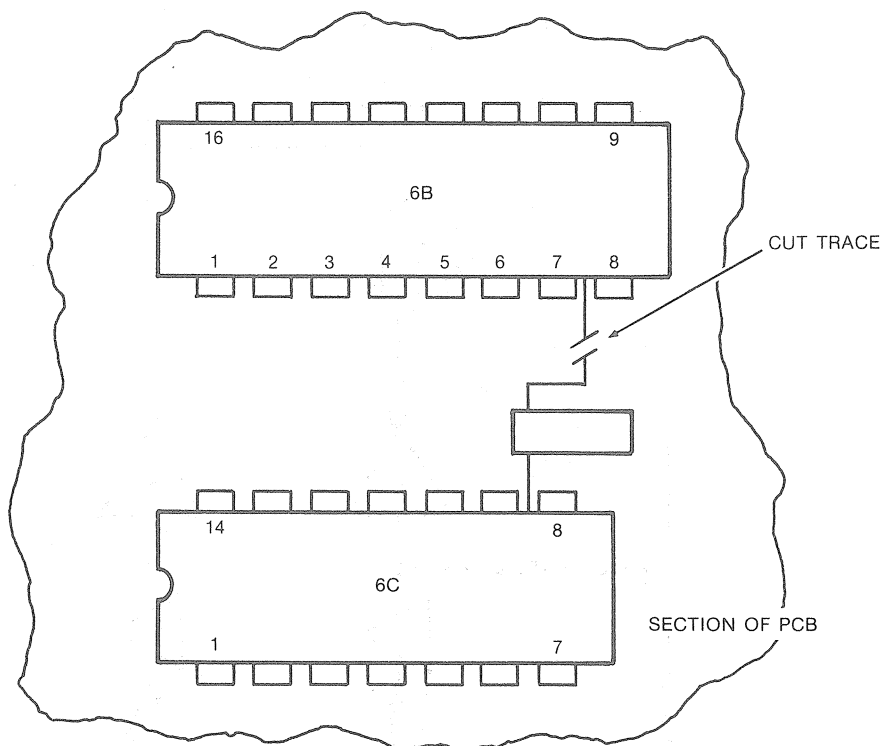

FIGURE 3-14. TRACE CUT FOR CONVERSION TO HARD SECTOR
1. Cut the trace as shown in Figure 3-14.